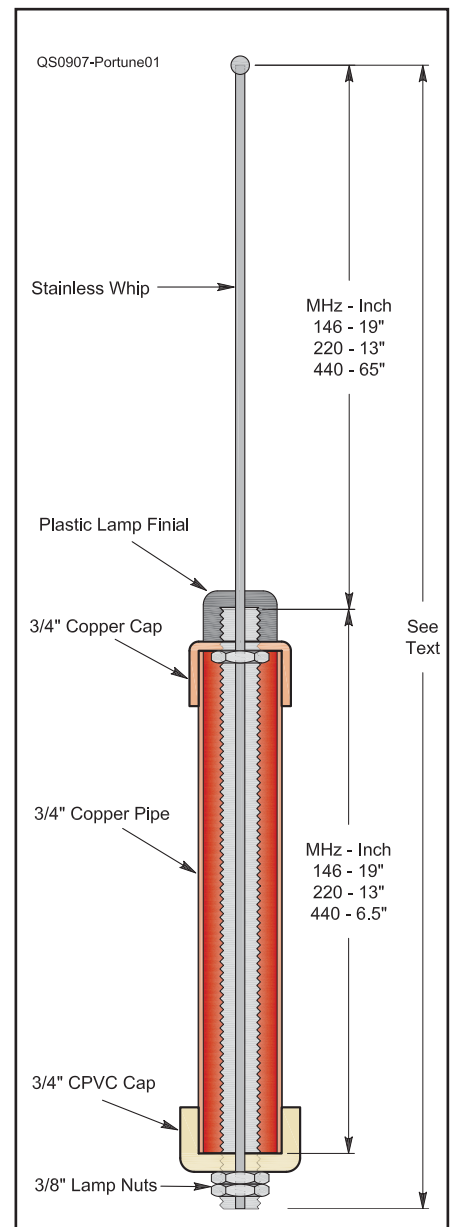

Figure 1 — Dimensioned drawing of coaxial dipole for three bands.
here made from a threaded table lamp tube, the lower part of the whip becomes the center conductor of a short length of rigid coax feeding the center of the antenna. Now connection to normal coax is easily made below the antenna. To form the rigid coax section, you'll need to insulate the center conductor (lower part of the stainless whip) from the lamp tubing with some ¼ inch inside diameter (ID) polyethylene tubing. Hardware stores normally carry it. This short length of rigid coax formed in this way isn't precisely 50 Ω characteristic impedance, but the difference is totally insignificant. The drawing in Figure 1 shows the details.